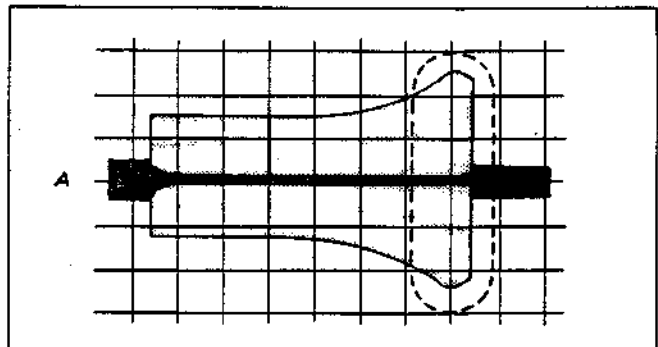
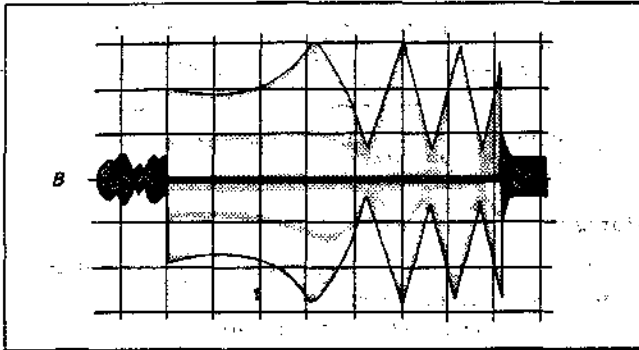

Fig. 4-12.
Fig. 4-13.
- When the waveform is outside this range and has the form shown in Fig. 4-12, turn the tilt adjustment screw clockwise to adjust until the waveform is within the required range.
- When the exit free waveform is outside of the required range and has the form shown in Fig. 4-13, turn the tilt adjustment screw counterclockwise to produce waveform A (Fig. 4-12), then turn it clockwise to bring the waveform within the required range.
- If the radio frequency waveform is as shown in Fig. 4-12 on the exit side, repeat the adjustment.